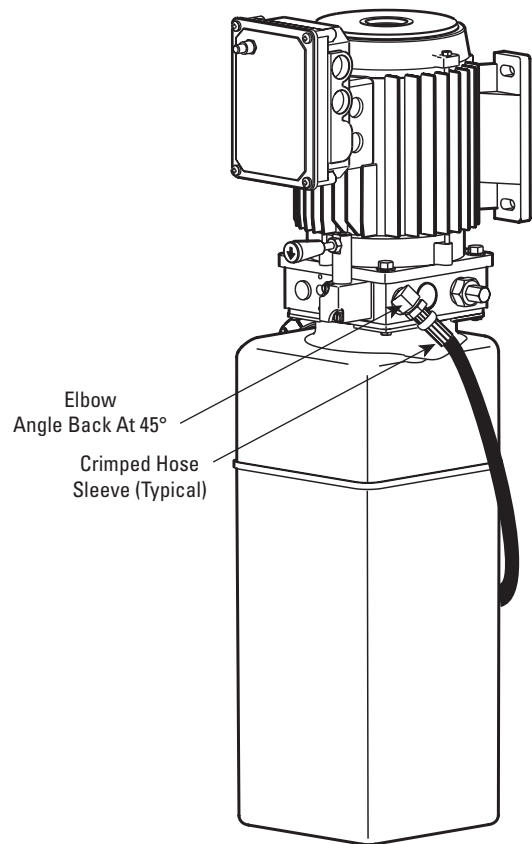
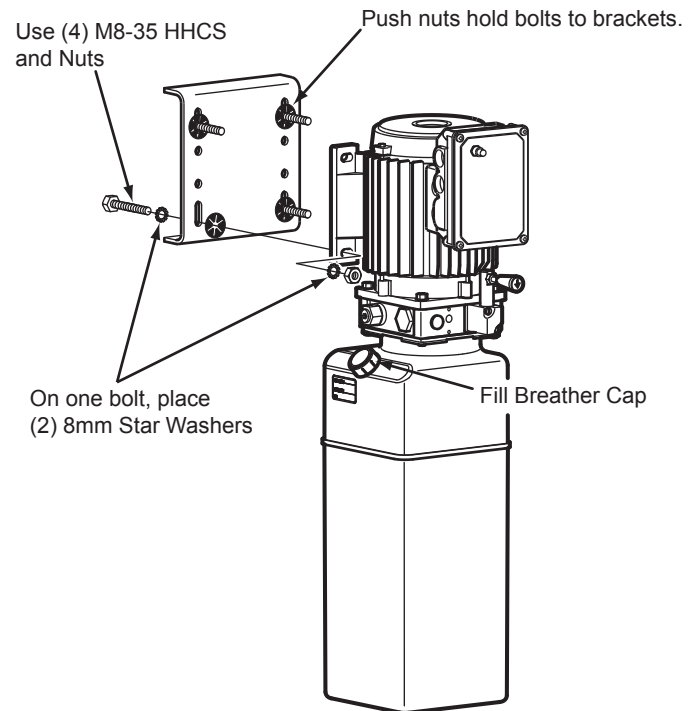
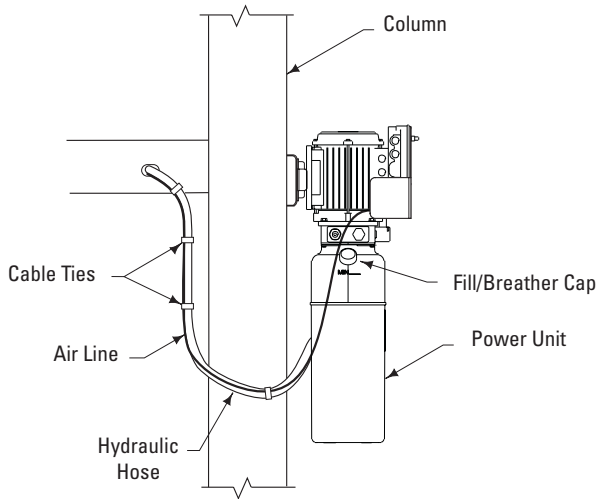
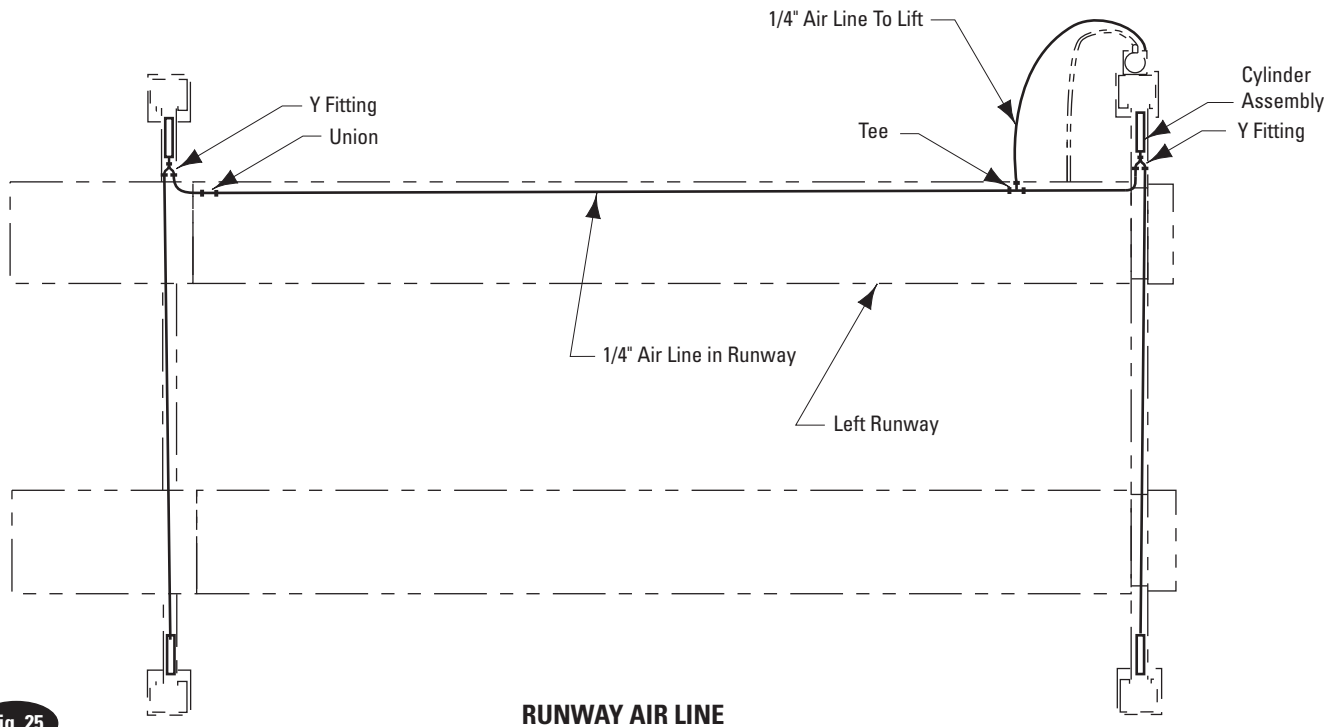

Fig. 17
Fig. 18
Fig. 19
Fig. 25
- Put (4) M8-35 hex bolts through holes in column bracket using push nuts to hold in place.
- Mount power unit with motor up, Fig. 18 to column bracket and install washers and nuts. Run hydraulic hose from runway through slot in side of runway to power unit output port, Fig. 19. DO NOT use Teflon tape on hydraulic hose connections.
- Install and hand tighten elbow to pump until O-ring is seated and elbow should be oriented downward at approximately 45°, Fig. 17. Tighten locknut to 35-40 ft-lbs. (47-54 Nm) Install enclosed Capacity label on power unit, Fig. 18.
**12. Hydraulic Fluid Filling:** System capacity is fourteen (14) quarts. Use Dexron III ATF. Remove fill/breather, Fig. 19. Pour in fourteen (14) quarts of fluid. Replace fill/breather. Start motor and raise lift to full rise. Lower onto latches.
**Note:** If fill/breather, Fig. 19, is lost or broken, order replacement.
**F. Attach enclosed decals NP280 ("PUSH TO RELEASE LATCHES") and NP864 (LIFT CAPACITY) below button on air valve bracket, Fig. 17. Run 1/4" air line from air valve to the slot in the fixed runway. Cut airline and attach a Tee, Fig. 25, 22.**
**G. Run 1/4" air line from the Tee in the front yoke through air output on the air valve, Fig. 22, and Fig. 25.**
To pressure test, run lift to full rise and run motor for approximately 5 seconds. Stop and check all fittings and hose connections. Tighten or reseal if required. Lower lift. If fill/breather, Fig. 19, is lost or broken, order replacement.